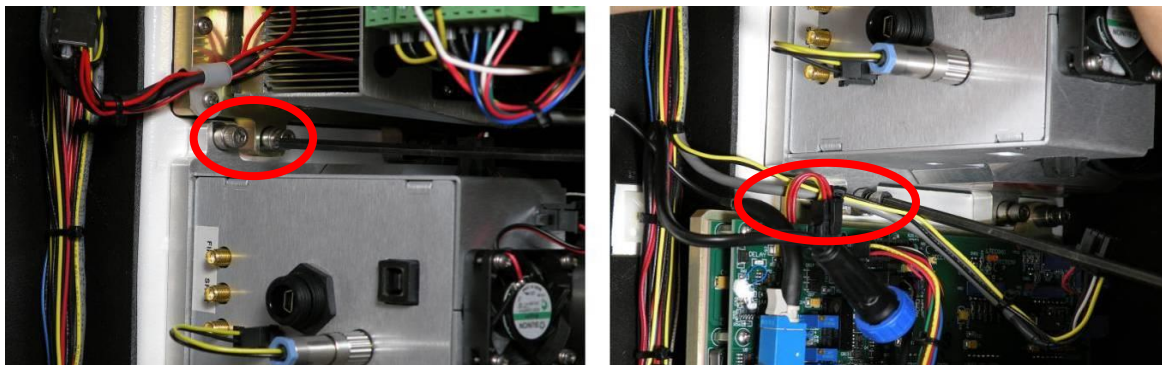

Figure 149. Loosen retaining screws
6. Loosen the four retaining screws (Figure 149). One of the retaining screws in the right photo is obscured by cables.